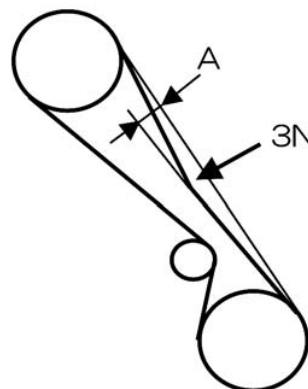

Fig.3
2. When pressing the center of pattern selecting cam driving belt with a force of 3N, measure the depth (A) of flexure on the belt.(Fig. 3)
A = 3.0 to 5.0 mm (Fig. 3)